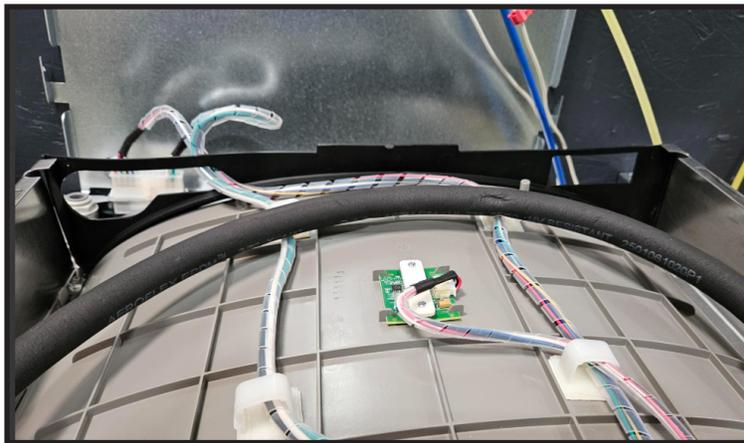

Fig. 4
- 12) Install gasket on bottom of bottle filler tower with gasket support bracket & (2) screws. (See Fig. 4, Pg. 5).